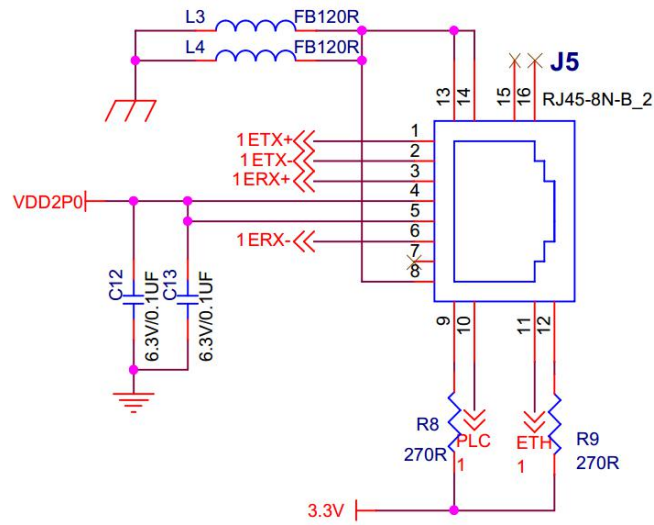

Figure 6: Ethernet interface circuit
2) The Ethernet interface circuit is shown in Figure 6: